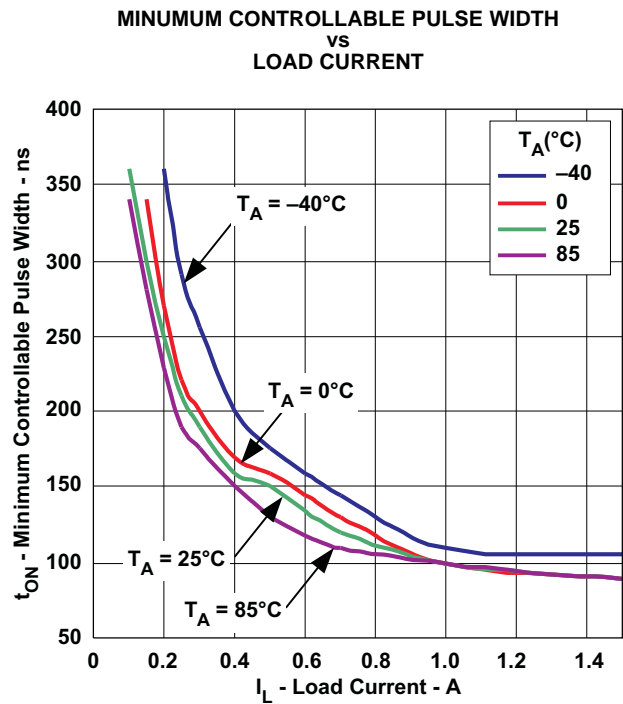

Figure 14.
(3) Ensured by design. Not production tested.
(4) See Figure 14 for ISWx peak current <1 A.